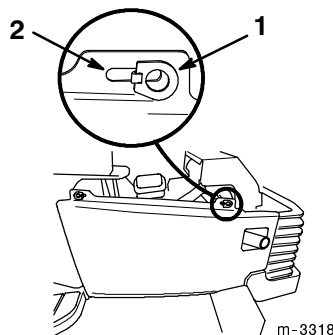

Figure 3
- A. Lift up and twist each of the two side panel latches 90°, or until they line up with the open slot (Fig.3).